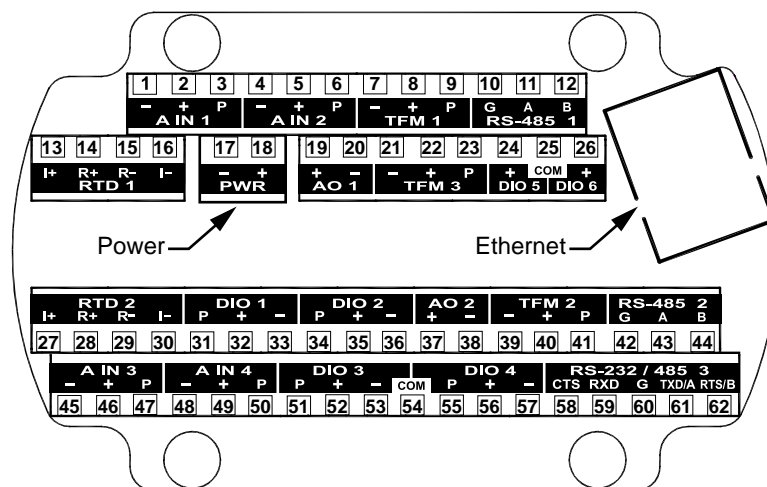

Figure 3.1—Terminal board illustration with numbered terminals
1. Remove the rear cover of the enclosure to access the terminal board. All wiring connections can be made to this board with the exception of the lithium batteries. Wire in accordance with the wiring diagrams shown on page 58 through page 65. See Figure 3.1 for help in locating the terminals by number.